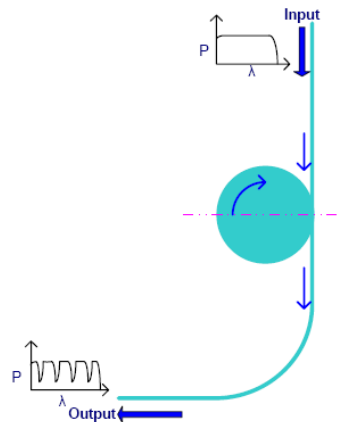

Fig. 1 Schematic of a vertically coupled microdisk resonator showing an input broad linewidth optical signal, and resultant output signal [37]
Figure 1. (A) Schematic of the plastic fluidic chip. Pumps 1–3 are electrochemical pumps, and pump 4 is a thermopneumatic pump. (B) Photograph of the integrated device that consists of a plastic fluidic chip, a printed circuit board (PCB), and a Motorola eSensor microarray chip.